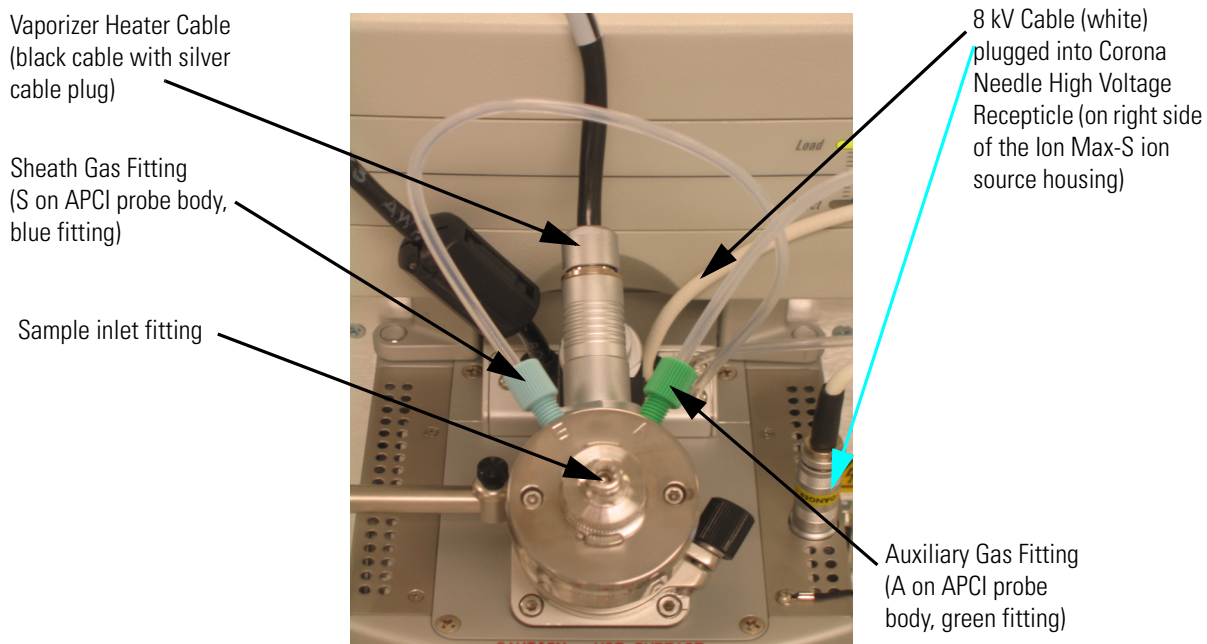

Figure 5. Ion Max ion source housing with APCI probe installed
1. Unplug the vaporizer heater cable from the vaporizer heater cable socket on the APCI probe. See Figure 5.
2. Disconnect the sample transfer line from the APCI probe. (See Figure 5.)
3. Remove the auxiliary gas line (green colored fitting) from the APCI probe. (Figure 5)